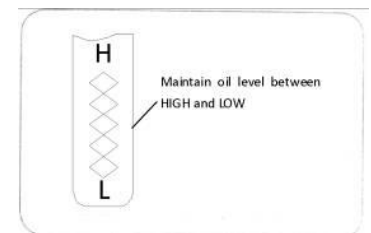

Figure 29
- Unscrew and remove oil fill cap from oil filler tube. Note oil level. If oil reading on dipstick is below "LOW" mark, slowly add oil to reach "HIGH" level, see Figure 29.